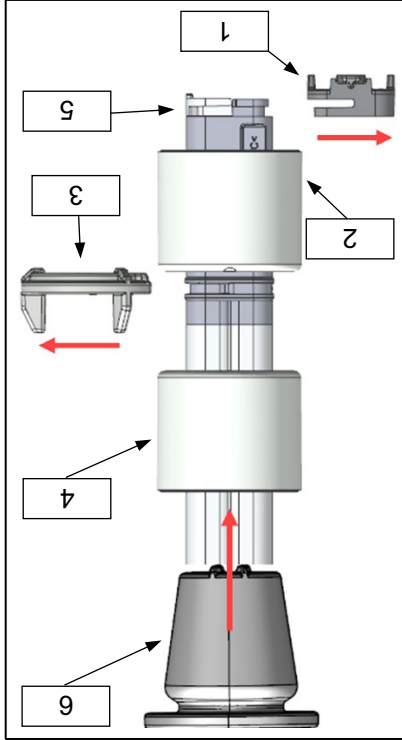

Figure 11
- ▶ Pull out the filter sieve (Figure 11, item 1) to the side.
- ▶ Pull out the lower float (Figure 11, item 2) downwards
- ▶ Pull off the snap ring (item 3) from the side (only variant SL2D..., see chapter 7.2.3 Snap ring)
- ▶ Pull out the upper float (item 4) downwards.